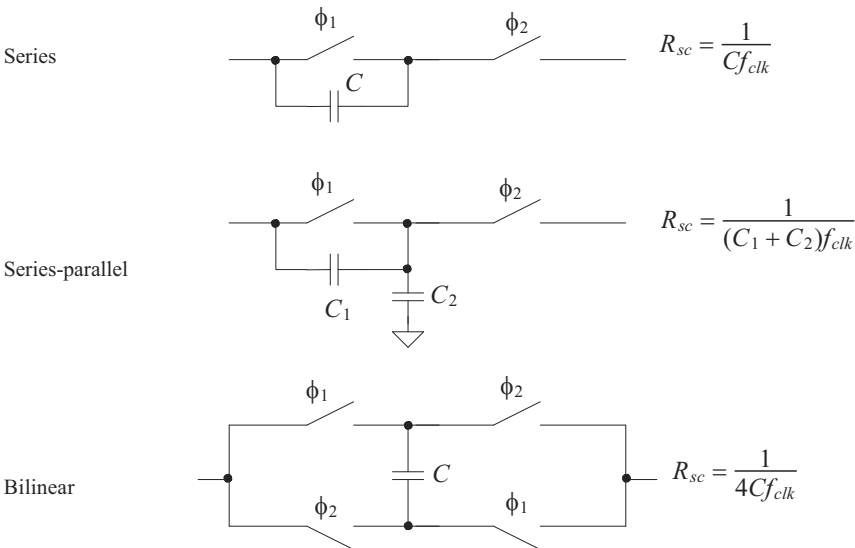

Figure 25.41 Alternative forms of switched-capacitor resistors.
- 25.6** Show that the switched-capacitor circuits shown in Fig. 25.41 behave like resistors, for $f \ll f_{clk}$, with the resistor values shown.